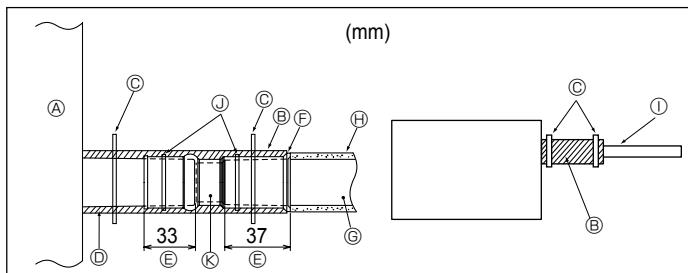

Fig. 3-5
1. Connect the drain socket (supplied with the unit) to the drain port. (Fig. 3-5)
[Fig. 3-5]